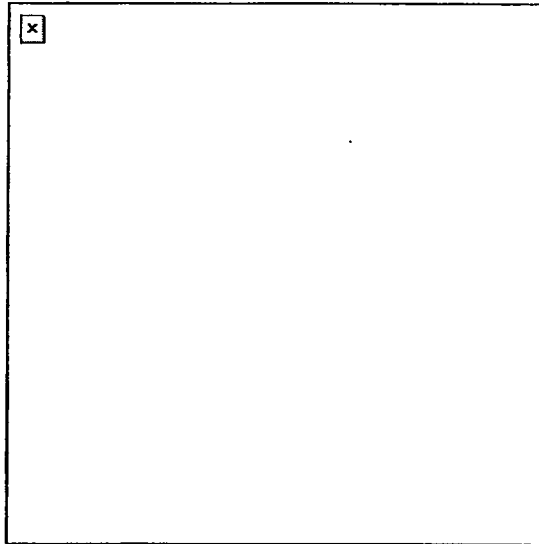
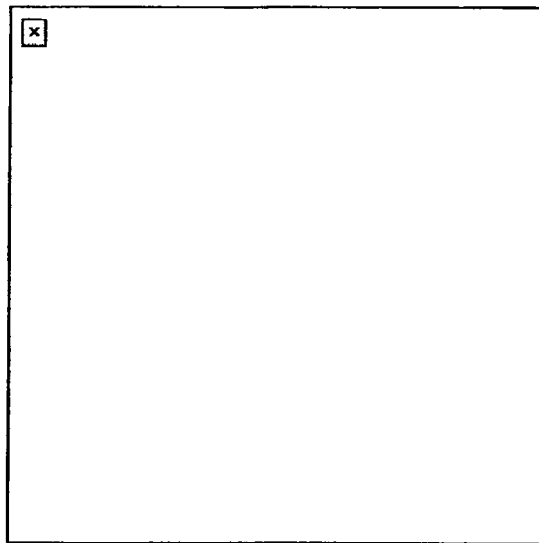

Figure 8. Alignment of sear assembly, pin holes.
Figure 9. Insertion of cradle retaining pin.
- b. Align the rear mounting holes of the gun with the rear holes of the gun mount (Figure 8 and Figure 9). Insert the gun mount pin from the right side and rotate it downward to locked position.